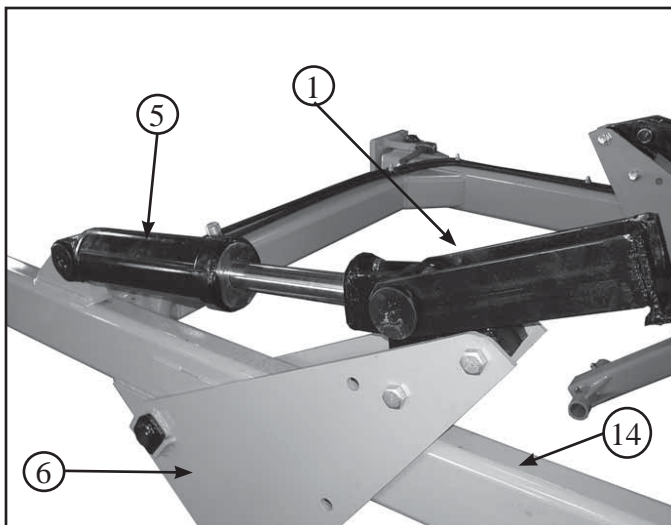

Figure 11 - R.H. Rear Lift Cylinder
- 8. If the disc is to be transported refer to Fig. 11 and fully raise the disc until the cylinders (5) are fully extended. Swing the transport lock down until they lay on the cylinder barrel. To take the disc out of transport position, make sure the cylinders are fully extended, then swing the transport lock up.